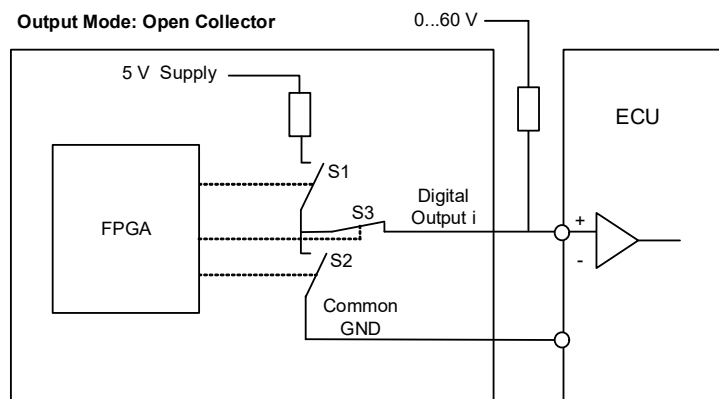

Fig. 24-13 Schematic Diagram for the Settings „Pull-Up to +5 V” and “Open Collector” in the “Signals” Tab
A schematic diagram for a digital output is shown in Fig. 24-13.
- The pull-up resistor determines the voltage level of the signal. In the column "Output Mode" in the "Signals" tab, you can choose between an internal pull-up resistor ("Pull-Up to +5 V") and an external pull-up resistor ("Open Collector"), see Fig. 24-13.